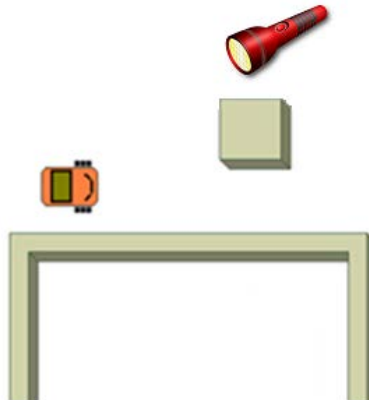

Figure 2: Robot homing
3. Based upon the above model, write code to home the Arduino robot to the light source (see Figure 2). The robot should come within one foot of the beacon without touching it.